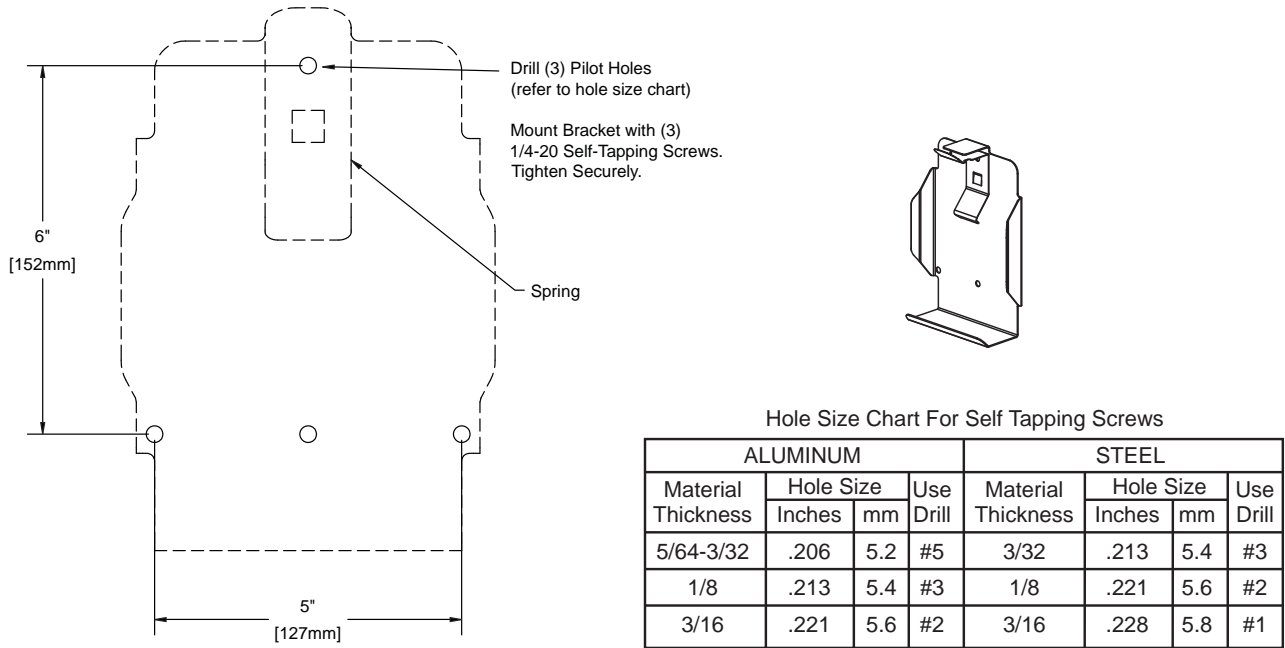

Figure 4.4.1
The storage bracket is supplied with (3) 1/4-20 stainless steel self-tapping screws. Make sure the material beneath the bracket is substantial and thick enough to hold self-tapping screws. Make sure the area on the backside of the mounting surface is clear of obstructions. We recommend a minimum thickness of 3/32" (.093" - 2.4 mm) in aluminum and 5/64 (.078"-2mm) in steel. See the chart in Figure 4.4.1 to determine the correct pilot hole size.
Select proper location for mounting storage bracket. Panel space required will be 6.0" x 11.2" (152 x 285mm). Refer to Figure 4.4.1 for hole dimensions. Bracket can be used as a template. **Be sure spring is in position.**
The storage bracket is supplied with (3) 1/4-20 stainless steel self-tapping screws. Make sure the material beneath the bracket is substantial and thick enough to hold self-tapping screws. Make sure the area on the backside of the mounting surface is clear of obstructions. We recommend a minimum thickness of 3/32" (.093" - 2.4 mm) in aluminum and 5/64 (.078"-2mm) in steel See the chart in Figure 4.4.1 to determine the correct pilot hole size.
Select proper location for mounting storage bracket. Panel space required will be 6.0" x 11.2" (152 x 285mm). Refer to Figure 4.4.1 for hole dimensions. Bracket can be used as a template. Be sure spring is in position.